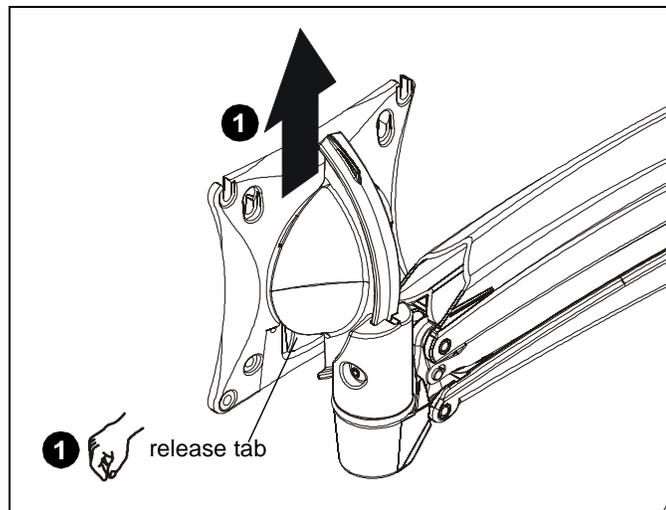

Figure 2
1. Remove quick connect faceplate from mount by pressing release tab and sliding faceplate off mount. (See Figure 2)